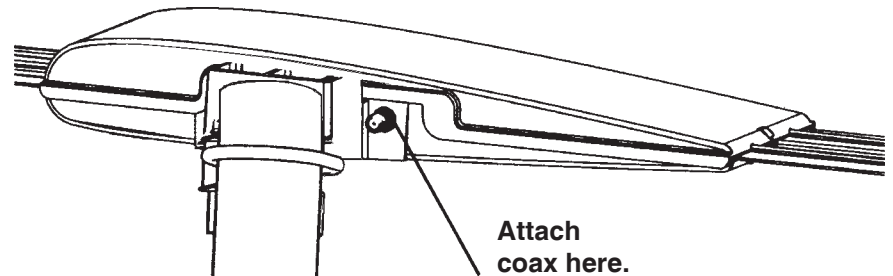

Figure 4
STEP 1. Attach download cable to F-jack on back of antenna head and tighten securely. (Figure 4). Tape download to mast and run cable to TV.
STEP 1. Attach download cable to F-jack on back of antenna head and tighten securely. (Figure 4) Tape download to mast and run cable to power supply location.